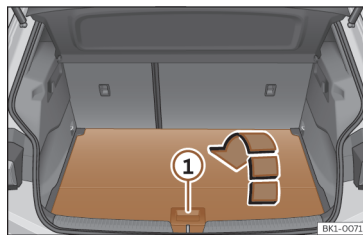

Fig. 155 In the luggage compartment: open the second luggage compartment floor.
- To **open** it, grasp the handle >>> **Fig. 155** ① and fold the rear of the luggage compartment floor forwards in the direction of the arrow.
- To **close** it, fold out the luggage compartment floor and set it down carefully >>> ①.